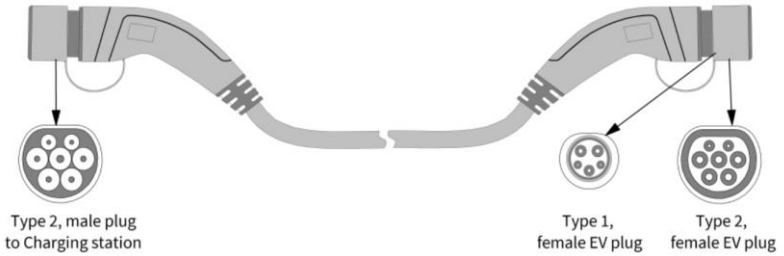

Fig. 3-4 Dual-connector charging cable
- INJET ECO Untethered series can charge an EV with a Type 1 or Type 2 vehicle inlet. Users should extra purchase a dual-connector charging cable shown as Fig. 3-4, according to the vehicle charging inlet of their EV. One connector of the charging cable must be a Type 2 male plug, and another is a Type 1 or Type 2 female plug to EV.